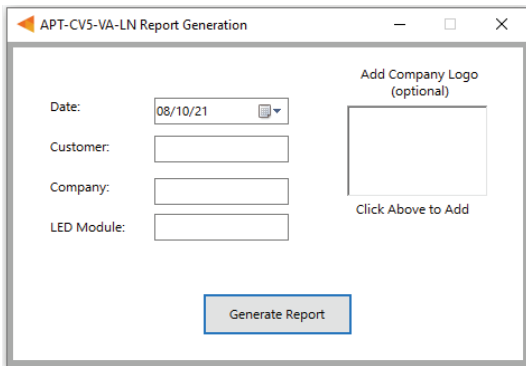

Figure 19: Report Generation window
- 1 Select **File > Generate Report**, or press **Ctrl+R**, to open the Report Generation Window (shown in Figure 19).